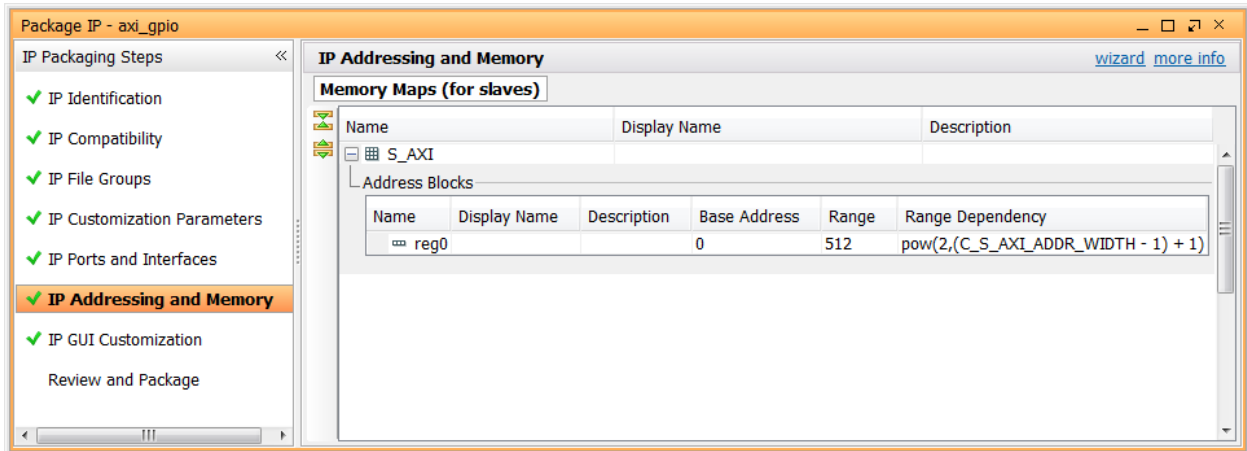

Figure 155: IP Addressing and Memory Page
16. Click **IP Addressing and Memory** to see the memory mapping of any registers in the IP (FIGURE 155).